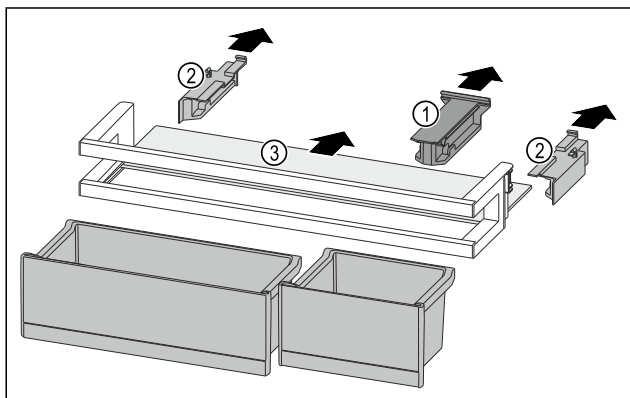

Fig. 125
- Pull off the retaining part Fig. 125 (1).
- Pull off the side part Fig. 125 (2).
- Remove the shelf Fig. 125 (3).